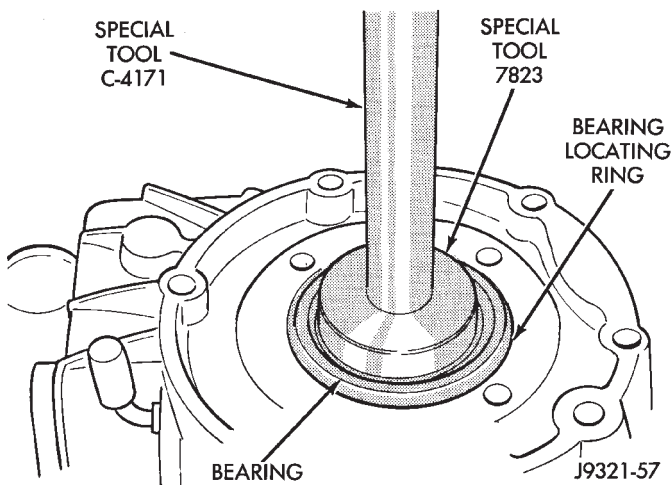

Fig. 57 Installing Front Bearing
- (2) Install locating ring on new bearing, if necessary (Fig. 57).
(3) Position case so forward end is facing upward (Fig. 57).